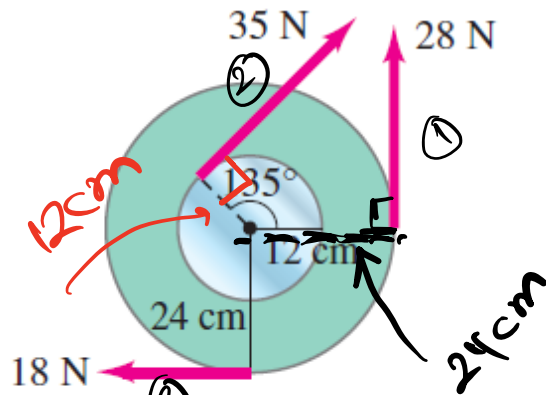

FIGURE 8-42 Problem 25.
25. (II) Calculate the net torque about the axle of the wheel shown in Fig. 8-42. Assume that a friction torque of  $0.60 \text{ m} \cdot \text{N}$  opposes the motion.